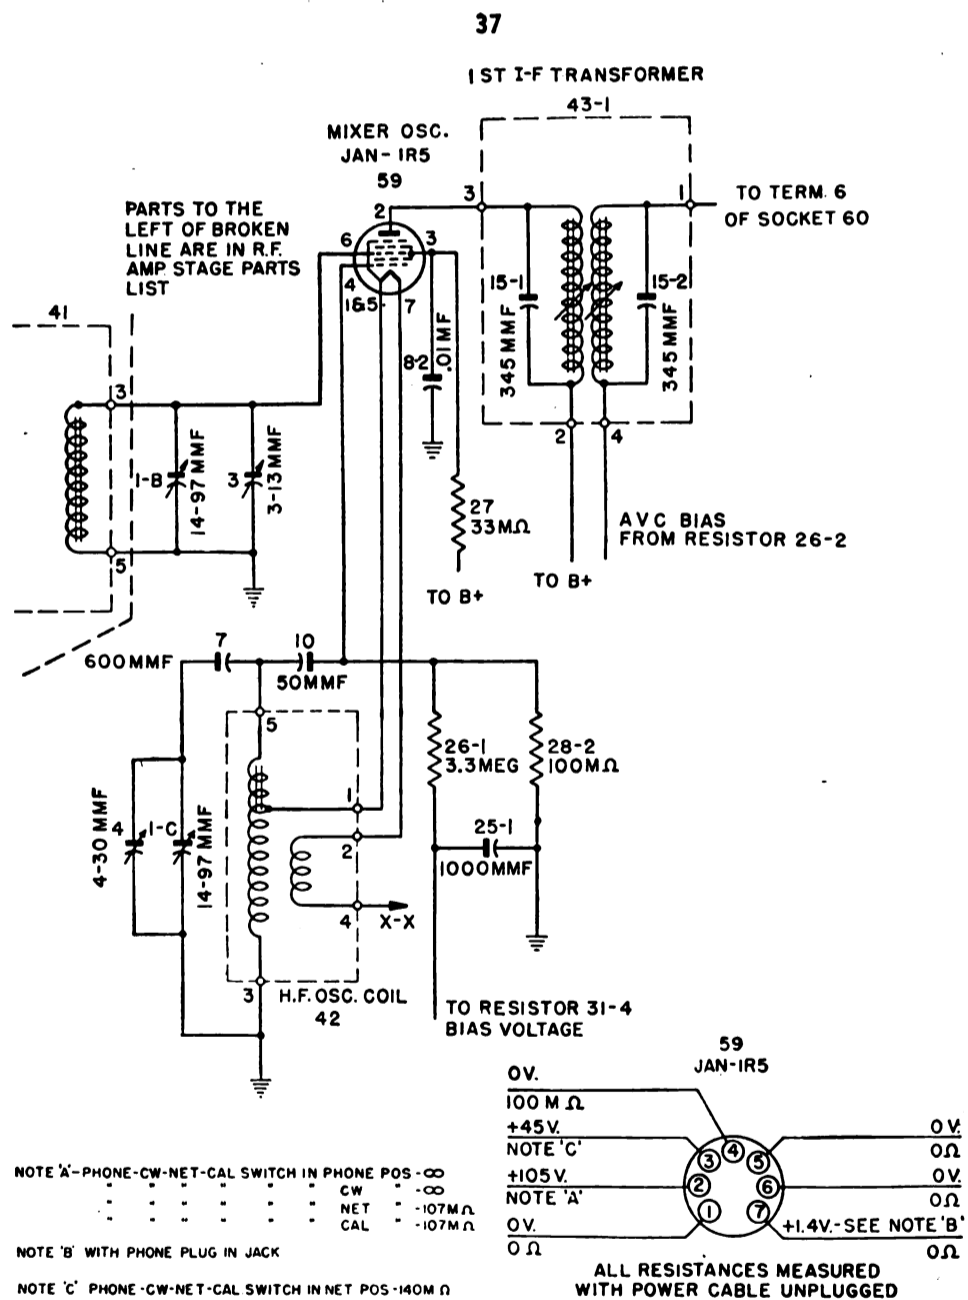

Figure 32. Mixer, h-f oscillator stage schematic for receiver of Radio Receiver and Transmitter BC-1306.
*a. STAGE DATA.* (1) Mixer-oscillator stage schematic, figure 32.
(2) Voltage and resistance values for socket 59, stage schematic.
(3) Parts data for mixer-oscillator stage, table XIII.
*b. TROUBLE LOCATION.* (1) *Tube check.* Remove the tube from socket. Test it with the tube checker and replace with a new tube if necessary. In replacing tube see that it is seated firmly in its socket.
Table XIII. Parts data, mixer, h-f oscillator stage (receiver) (fig. 32).